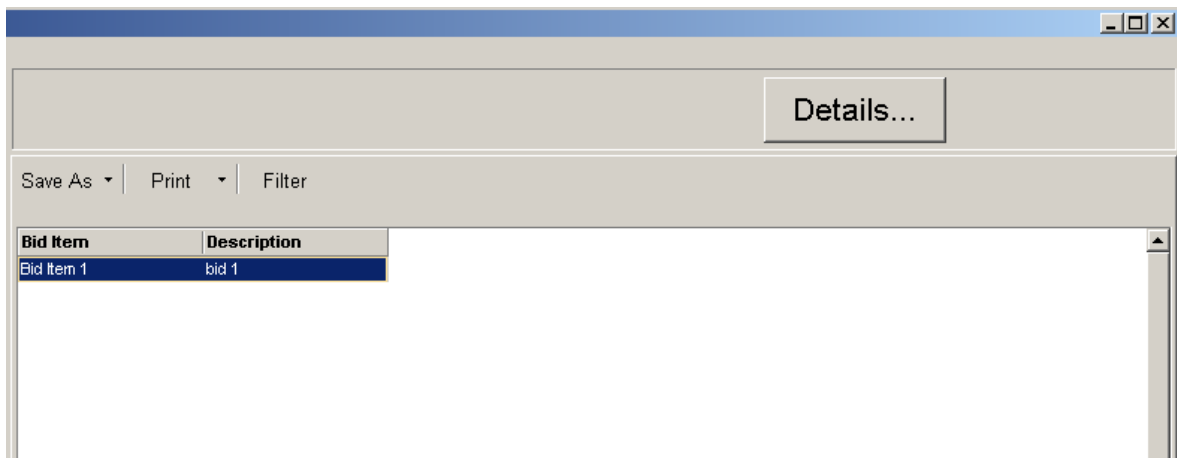

Figure 1.15 New Bid Item
The new bid item will now appear on the right side of the Data Explorer window as seen in Figure 1.15. To edit the bid item after it has been entered:
1. Click on the Bid item as seen in Figure 1.15